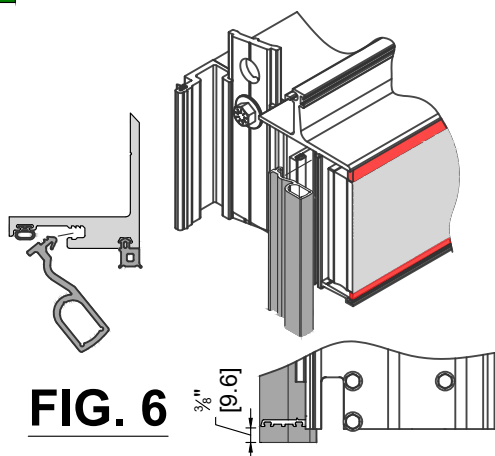

FIG. 6
- Insert vertical diverter gasket P9088 into the race from underneath the chicken head and 3/8" [9.5] lower than setting shelf. **See FIG. 6**